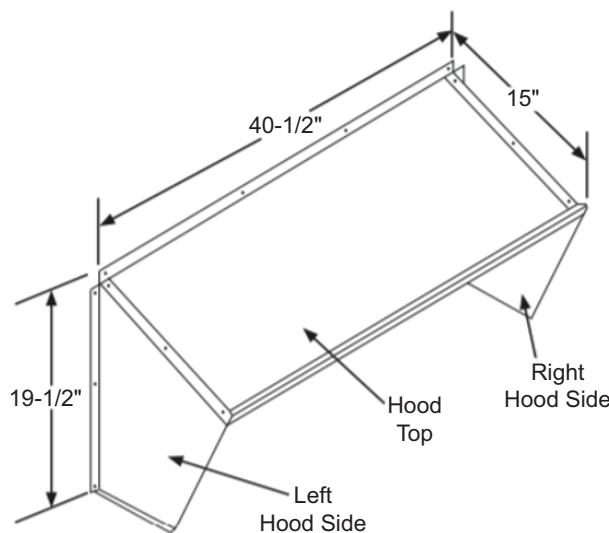

Fig. 30 — CRBARDH001A00 Hood Sides and Top
5. Using the provided hardware, screw the CRBARDH001A00 hood sides and top together (see Fig. 30).